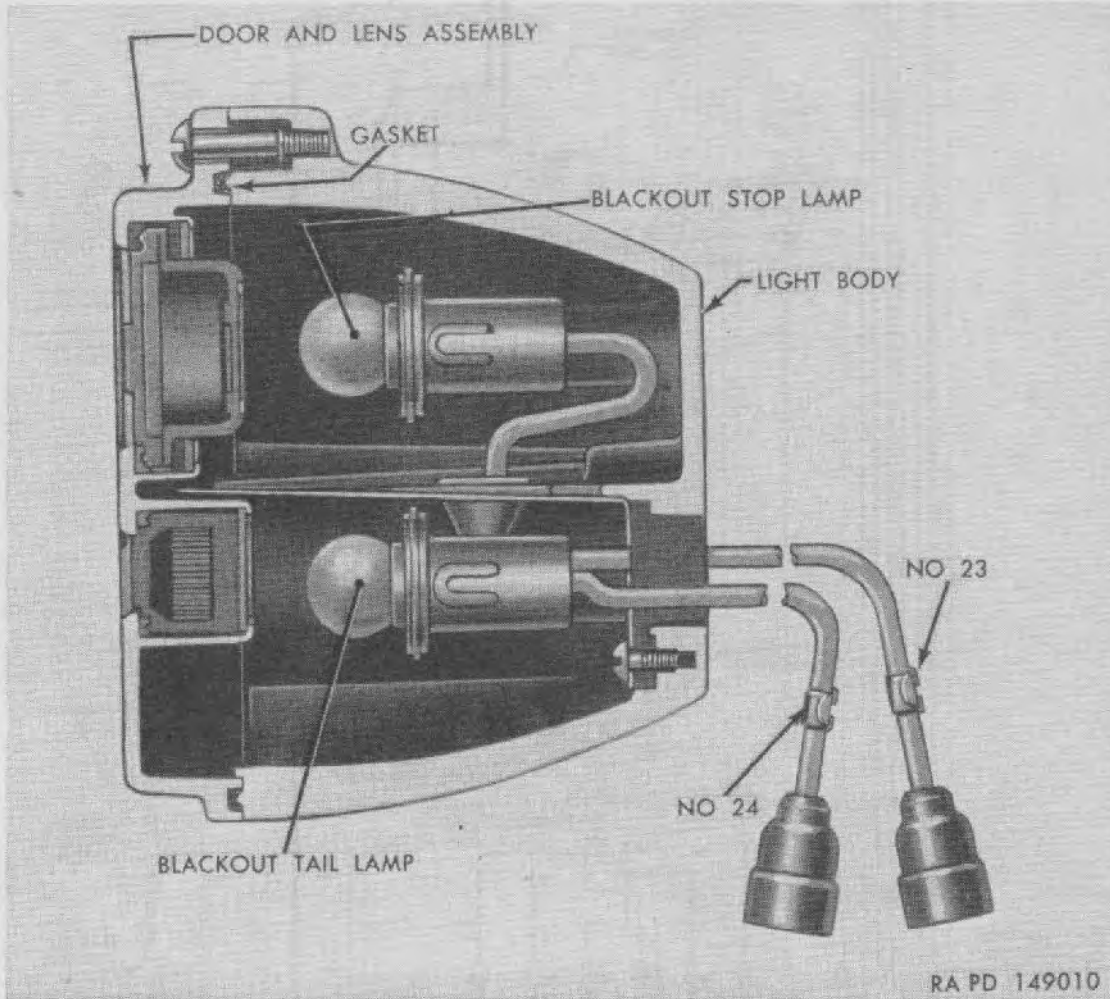

Figure 89. Sectional view of blackout stop and tail light.
a. DOOR AND LAMP REPLACEMENT (fig. 89). Door and lamp replacement is same as described for front marker lights (par. 145a).
- (1) *Removal.* Disengage light cables from clip. Disconnect light cables from harness at bayonet type connectors. Remove two cap screws and lock washers attach-